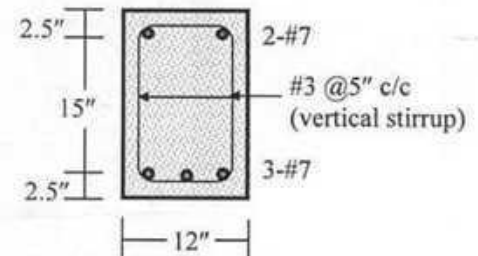
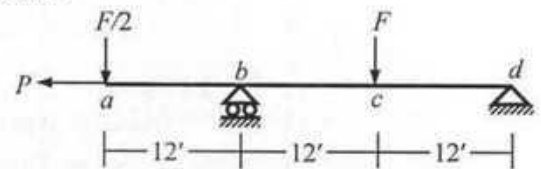

Fig. 1
Fig. 2
1. For the RC section shown in Fig. 1, calculate the
2. For the RC section shown in Fig. 1, calculate the
3. Fig. 1 shows section  $c$  obtained by USD of the beam  $abcd$  loaded as shown in Fig. 2. Use BMD of the beam to
4. Fig. 1 shows section  $c$  obtained by WSD of the beam  $abcd$  loaded as shown in Fig. 2. Use SFD of the beam to
- (i) Calculate the corresponding live load  $F$  (neglecting beam self-weight) for the stirrup spacing shown in Fig. 2.
5. Fig. 1 shows section  $c$  obtained by USD of beam  $abcd$  (shown in Fig. 2). Calculate (by USD) the
- (ii) Axial Force  $P$  required to make  $V_c = 0$ , and corresponding live load  $F$  (neglecting beam self-weight) for the stirrup spacing shown in Fig. 2.